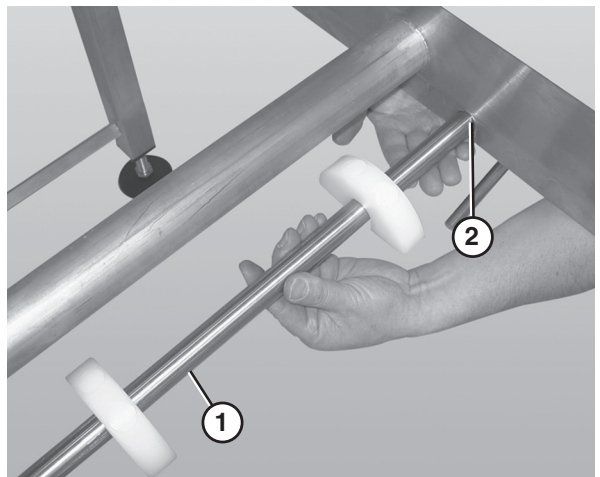

Figure 57
1. Remove the belt returns by pushing up on the return shaft (**Figure 57, item 1**) and sliding it through the large hole (**Figure 57, item 2**) in the frame.
2. Lower the opposite end of the return shaft (**Figure 57, item 1**) and slide it out of the frame.